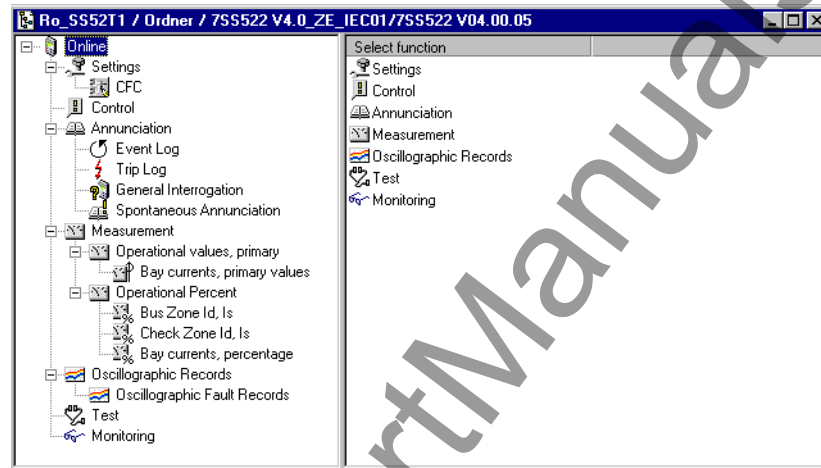

Figure 6-1 Annunciation groups in the DIGSI Device Configuration
- ❑ Click the folder **Online** in the navigation window of the DIGSI Device Configuration. This will open the directory containing the operating functions of the device (see Figure 6-1, page 207).